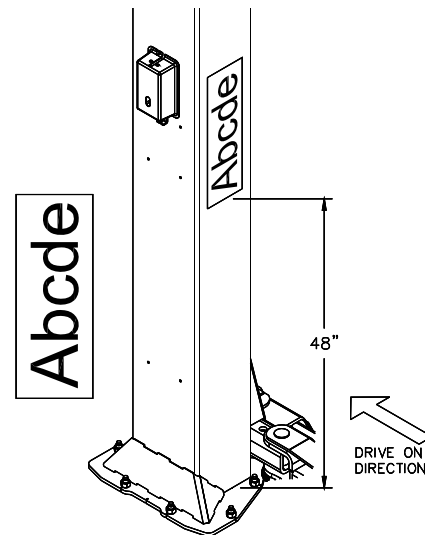

Fig 15 – Decal Placement
- 43) Apply the decal 48” from the top of the base plate, **Fig 15**.